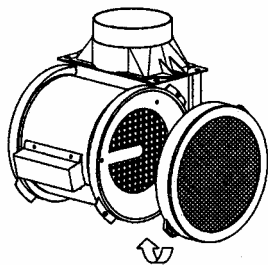
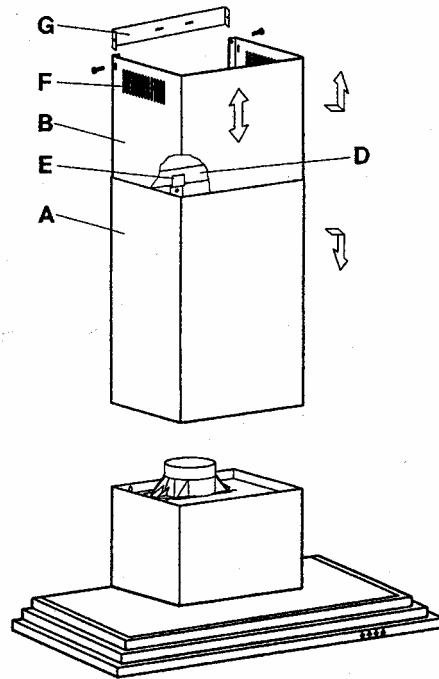

Fig.4
Fig.2
In this case, air is circulated through opening F (Figure 2). In order for the hood to function as a filtering purifier, two active carbon filters, supplied as separate accessories, must be used. The active carbon filters must be replaced periodically to work properly, at least once every three months (depending on the frequency with which the hood is used). (Fig. 4).
- Mark the wall at the location of support E (Figure 2) according to the heights and specifications shown on the attached jig.
- Place tube A (Figure 2) with the extendible part B hanging on the inside, making sure that billet D (Figure 2) is correctly attached to support E (Figure 2).
- Next, secure support G to the upper end of the wall, making sure that it is properly aligned with the extendible tube. Extend the movable part of tube B until it reaches support G and connect to the support with the two side screws. (Fig. 2).